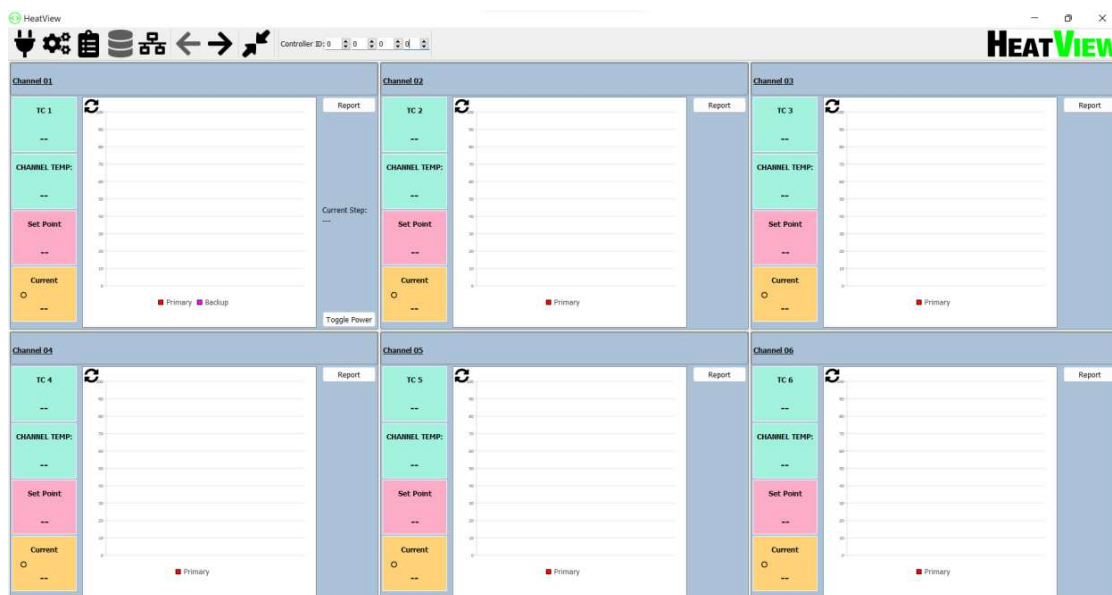

Figure 36: Connecting to The Controller – 'Main Screen', no connection
Upon first opening the program, it should appear as it does in Figure 36 below, a simple screen with 6 channels but no channel data or thermocouple readings and only the 'Report' function available on each channel.
2. If not already running, launch the HEAT VIEW computer application via your preferred method from Section 3.3. It should look similar to how it does in Figure 36 below.